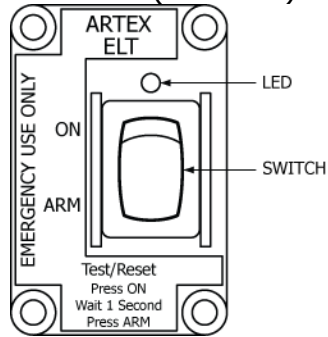

Figure 3 Remote Switch Front View
- 2) The cockpit-mounted remote switch assembly is comprised of an ELT status LED and control switch and allows an operator to manually turn the ELT on (i.e., activate) for testing and reset (i.e., deactivate) the ELT. See Figure 3 Remote Switch Front View.